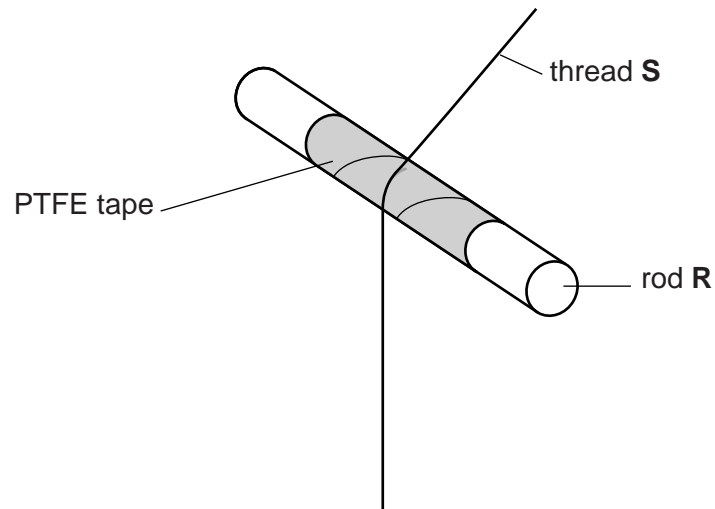

Fig. 1.3
- 10** Friction between the rod **R** and thread **S** is reduced by wrapping the rod with PTFE tape (see Fig. 1.3). The pivot rod may also be wrapped in PTFE tape if this is found to help the rule to pivot more freely.